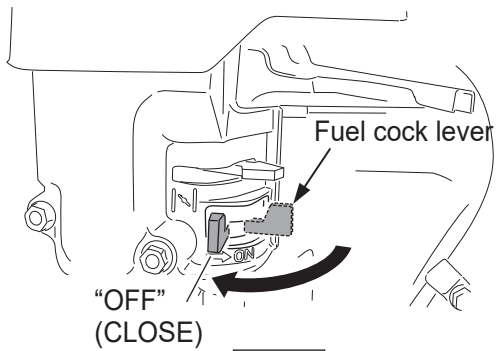

Fig.30
2. Shut the fuel cock.(Fig. 30)